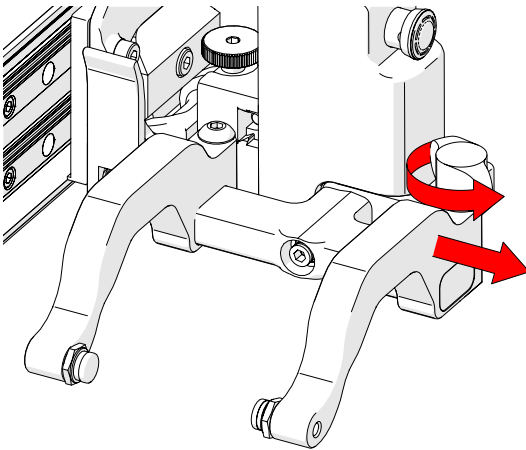

Fig. 121 - Remove outer arm
5. Loosen the probe holder adjustment knob and remove the outer probe holder arm (Fig. 121).